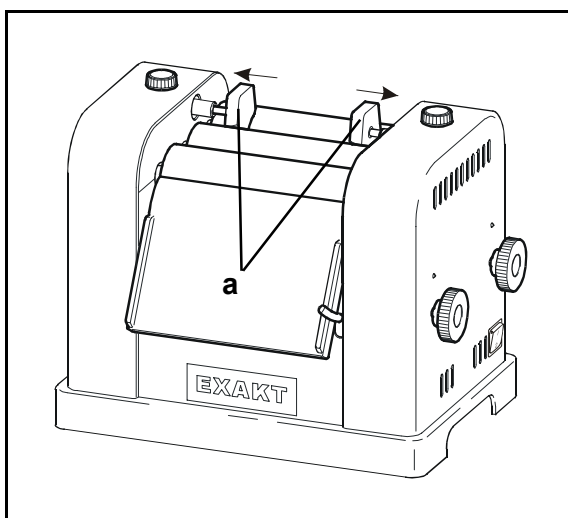

Fig. 8: Mounting the plastic guides
- Gently lift the guide positioning holders and slide the shafts of the guides into (Fig. 8/a) them.